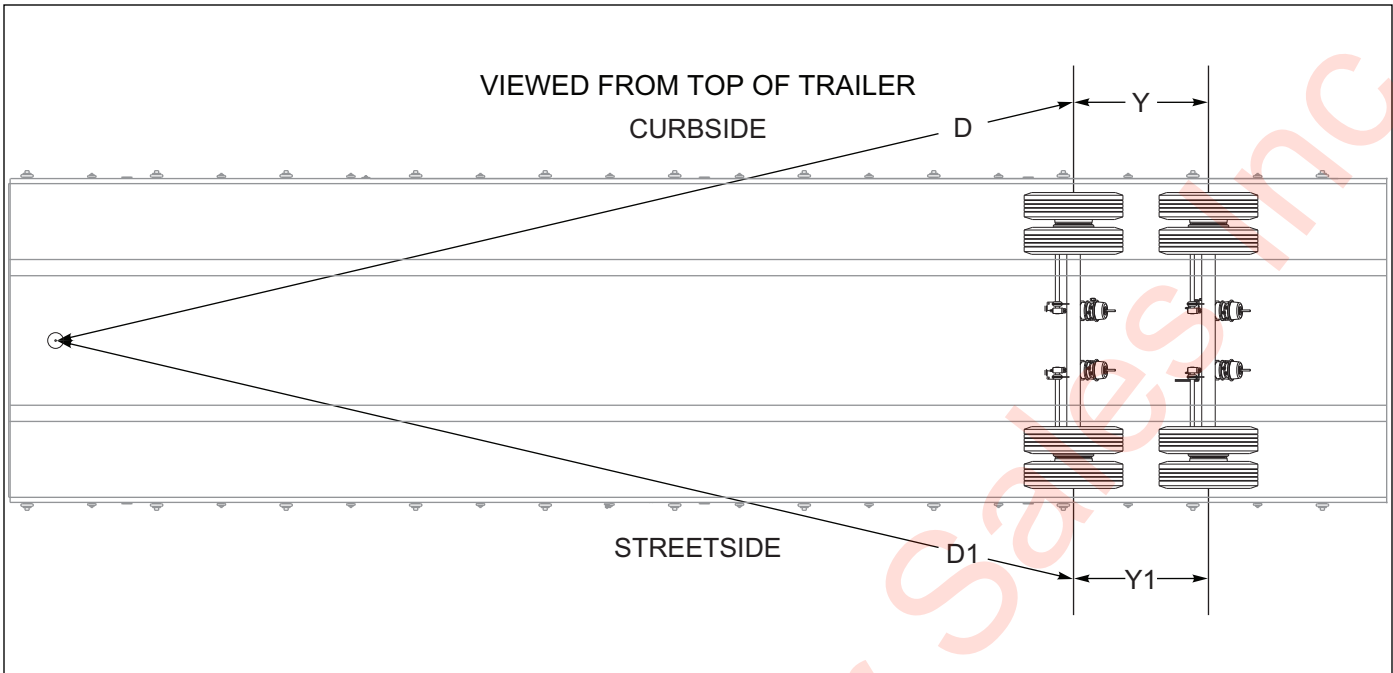

Figure 4-7: Checking Axle Alignment
3. Move the axle gauge and place against the back side of the axle. If either of the points of double point end fails to touch the axle surface, a bent spindle is evident. A point gap of .015" or more is considered excessive tire "toe" and the axle must be replaced (See Figure 4-7.)
4. Measure **Curbside (D)** from the plumb bob to the center point of the front curbside axle. Record this measurement (**See Figure 4-7.**)
5. Measure **Streetside (D1)** to the center point of the front streetside axle the same manner as in **Step 4.** Record this measurement (**See Figure 4-7.**)
6. Set **Curbside (D)** about 1/8” shorter than **Streetside (D1)** to insure proper trailer tracking on slope of road.